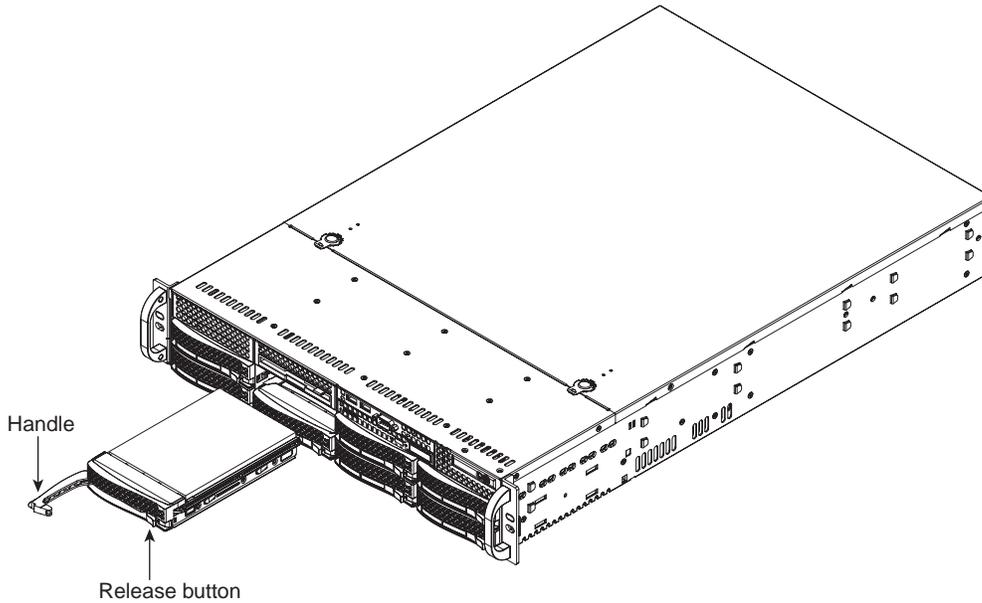

Figure 6-5 Removing a Drive Carrier
2. Swing the handle fully out and use it to pull the drive carrier straight out (see Figure 6-5).